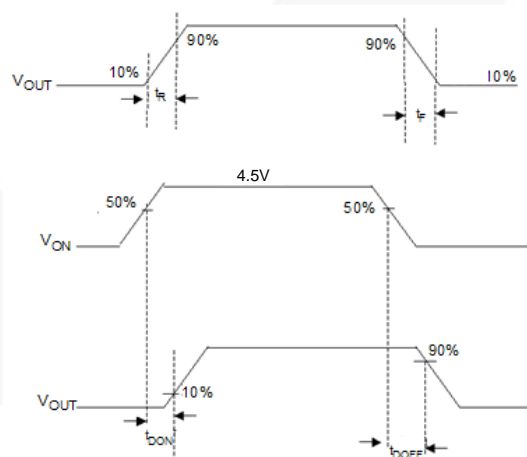

Figure 22. Timing Diagram
- $t_{DON}/t_{DOFF}/t_R/t_F$ are defined in Figure 22.